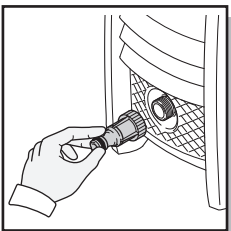
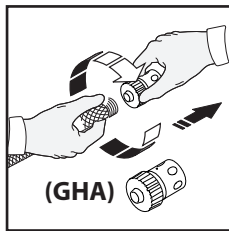
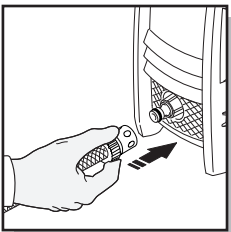

Fig.4
Fig.5
Fig.6
- First, remove the plastic shipping cover on the water inlet on the front of the power washer. Attach the clear plastic adapter by screwing it into the water inlet (Fig.4). Hand tight is fine. Next screw on the blue/ black collar attachment to your garden hose (Fig.5). Slide the blue/ black collar onto the clear adapter (Fig.6). It will "click" into place. Now turn on the water at the faucet. The water is now connected to your power washer.